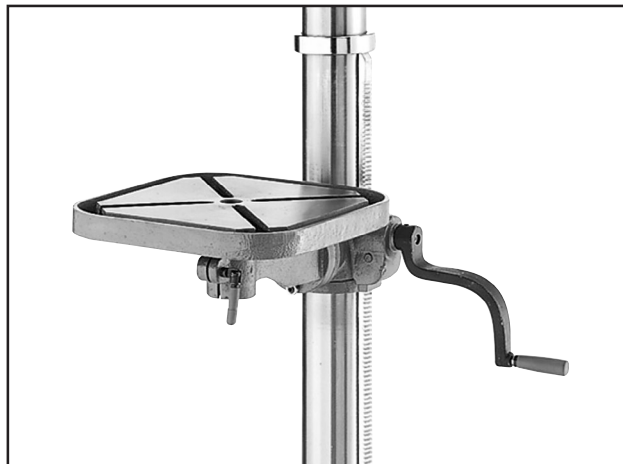

Figure 19. G7947 table installed.
2. Tighten the small locking lever to secure the table in the table support assembly. The table should now be installed as shown in **Figure 19** or **20**, depending on your model.